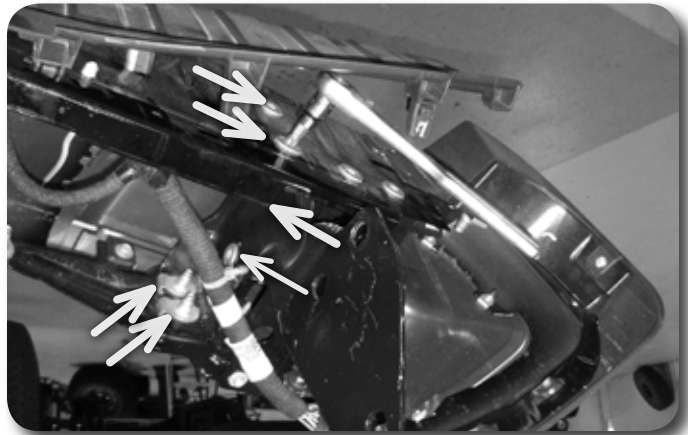

Figure 10
36. Release the clips on the bumper cover enough to access the bolts to the bumper brackets. Remove the bumper brackets from the bumper by removing the 6 bolts. See Figure 10